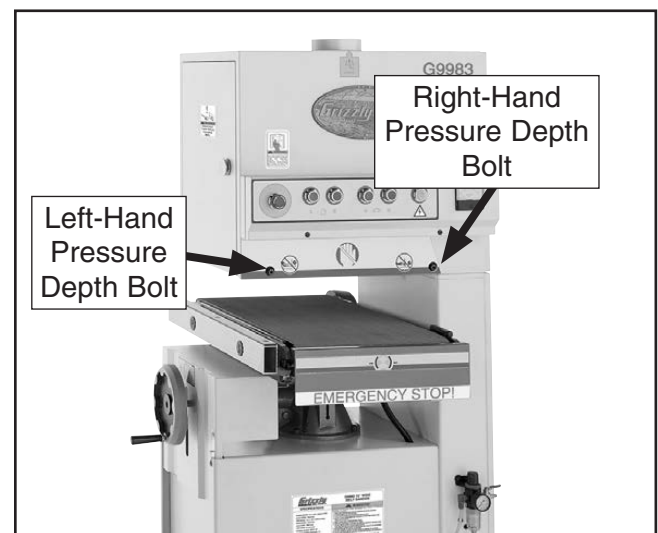

Figure 30. These are the pressure roller depth bolts at the front of the machine. *The rear depth bolts are in the same location at the rear.*
3. Place one board along the length of the conveyor belt on the right-hand side so it is directly beneath both front and back pressure roller depth bolts. Place the other board on the left-hand side so it is directly beneath both front and back pressure roller depth bolts. **Figure 30** shows the front left-hand and front right-hand pressure roller adjustment bolts.